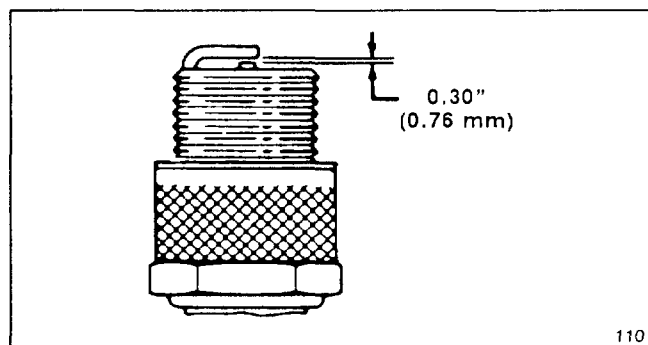

Figure 38
3. Set air gap between electrodes of new spark plug at 0.030" (0.76 mm) (Fig. 38). Next, install spark plug in cylinder head. Tighten plug to 15 ft-lb (20.4 N-m).